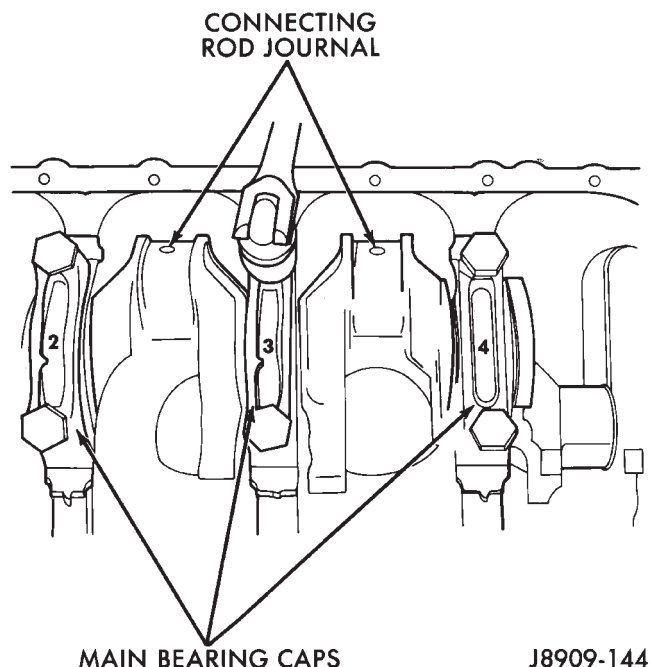
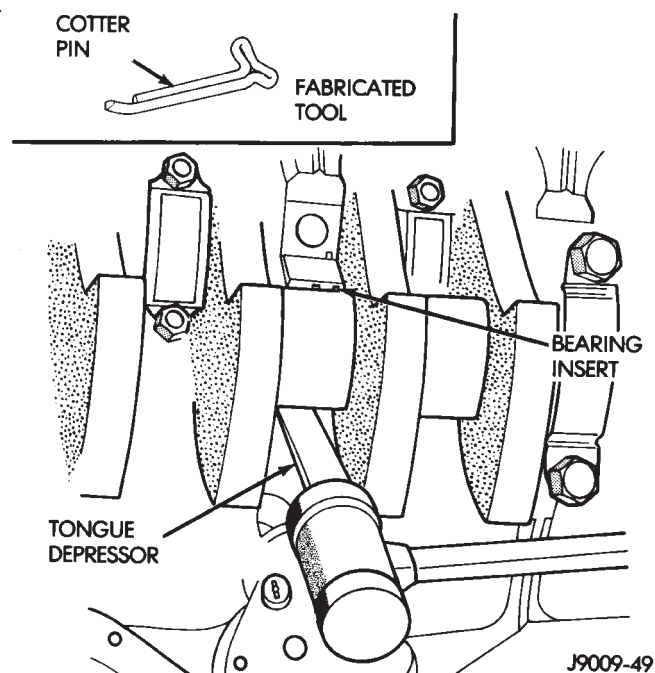

Fig. 46 Removing Main Bearing Caps and Lower Inserts
Fig. 47 Removing Upper Inserts
- (1) Disconnect negative cable from battery.
- (2) Remove the spark plugs.
- (3) Raise the vehicle.
- (4) Remove the oil pan and oil pump.
- (5) Remove only one main bearing cap and lower insert at a time (Fig. 46).
- (6) Remove the lower insert from the bearing cap.
- (7) Remove the upper insert by LOOSENING (DO NOT REMOVE) all of the other bearing caps. Now insert a small cotter pin tool in the crankshaft journal oil hole. Bend the cotter pin as illustrated to fabricate the tool (Fig. 47). With the cotter pin tool in place, rotate the crankshaft so that the upper bearing insert will rotate in the direction of its locking tab. Because there is no hole in the No.3 main journal, use a tongue depressor or similar soft-faced tool to remove the bearing insert (Fig. 47). After moving